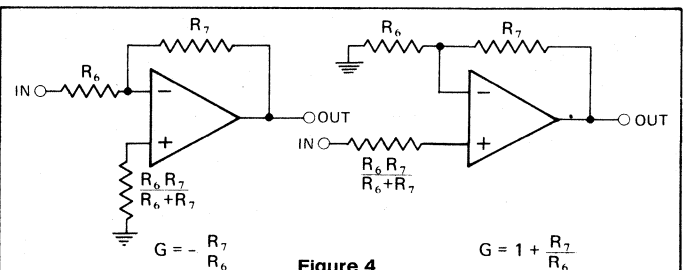
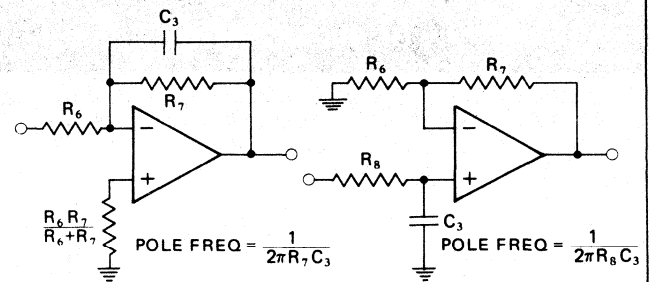

Figure 4.
Figure 5. Using the Uncommitted Op Amp to Add a Real Axis Pole
7. This procedure is based on unity gain output for the desired function. For additional gain, the fourth uncommitted operational amplifier should be used as an inverting or noninverting gain stage following the selected output. See Figure 4. A third pole on the real axis of the s-plane may also be added to the transfer function by adding a capacitor to the gain stage as shown in Figure 5.